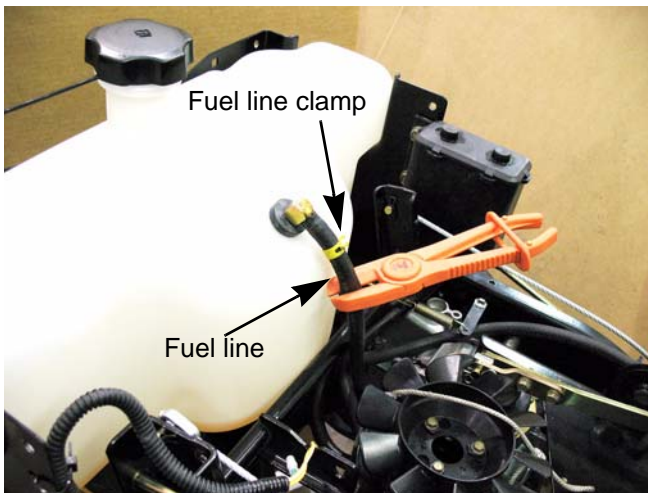

Figure 2.11
7. Clamp the fuel line. See Figure 2.11.